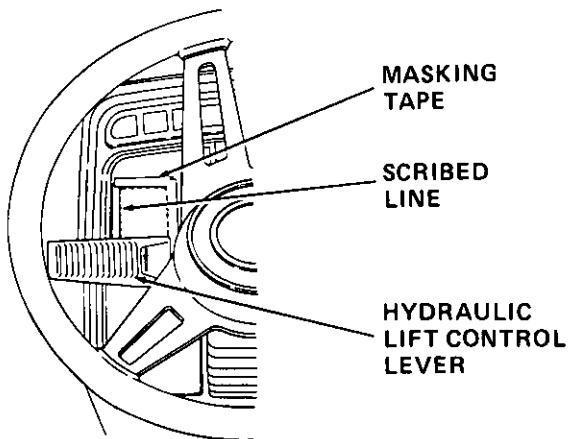

Figure 8
- a. Refer to Figure 8 and scribe an area extending approximately 1-3/4 inches above the hydraulic lift control lever.